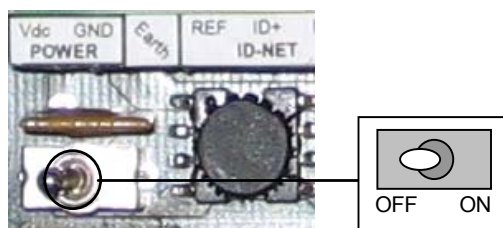

Figure 3 - Power Switch ON/OFF Positions
Switch ON the CBX500 power switch (see Figure 3). The Power LED turns on (blue) when the power connection has the correct polarity. The Power LED turns on (red) in case of wrong polarity.
The power switch (see Figure 3) switches the power supply ON or OFF for both the CBX500 and the connected reading device.
- 2) Verify that the CBX500 power switch is off (see Figure 3).